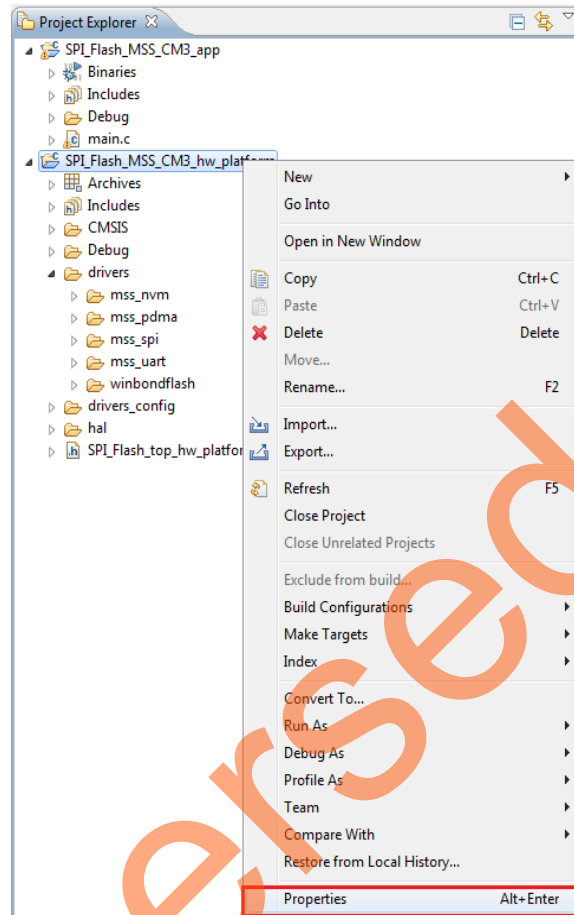

Figure 29 • Project Explorer window - Properties
10. Right-click the **SPI_Flash_MSS_CM3_hw_platform** in Project Explorer window of SoftConsole project and select **Properties** as shown in Figure 29.